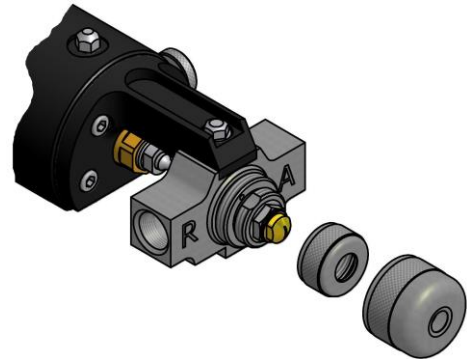

Figure. 9
9. Remove the diffuser and the PCD nut, turn them anti-clockwise with your hand and clean them with gun-cleaning solvent (see **Figure. 9**).
7. Remove the diffuser and the PCD nut by turning them anti-clockwise with your hand and clean them with gun-cleaning solvent (see **Figure. 9** page 14).